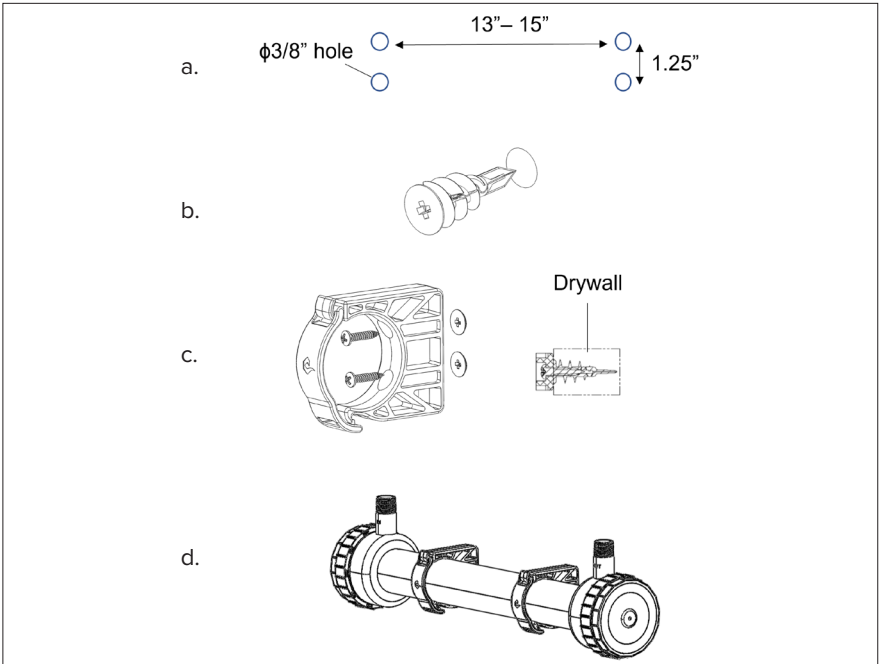

Figure 4: Mounting the Reactor
- a. As shown in **FIGURE 4**, locate the desired location of the reactor, and use 3/8" (9.5mm) drill bit size to drill 4 holes (2 holes for each clamp) at the desired points on the wall to mount the clamps.